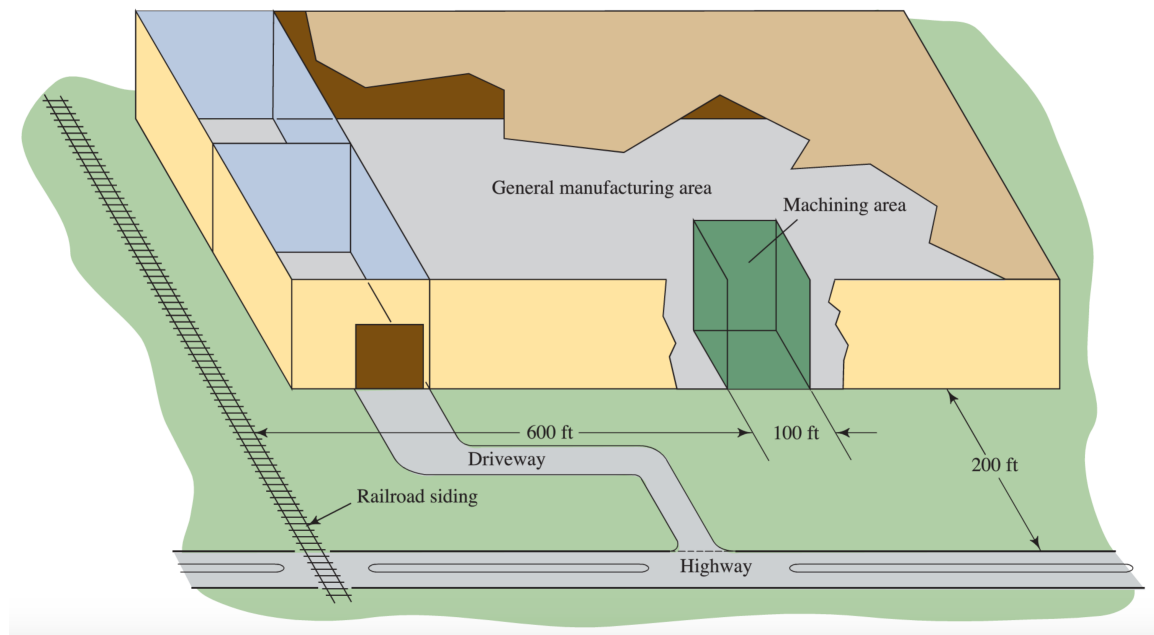
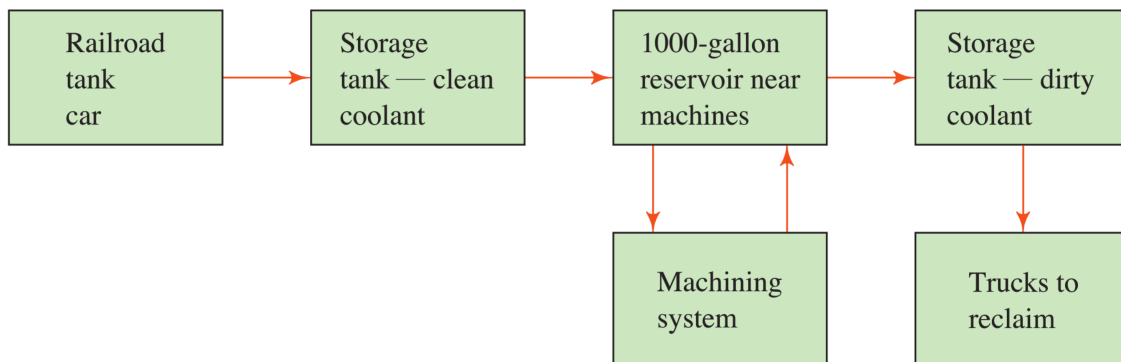

FIGURE 1. Plot plan of a hypothetical factory building for the design problem.
FIGURE 2. Block diagram of coolant system.
The layout of the planned facility is shown in figure 1. The following data, design requirements, and limitations are given.
17. The basic coolant storage and delivery system is to have the functional design sketched in the block diagram in Figure 2.
NOTE: *Verbally explain your ideas and add images, diagrams and graphs needed to explain your solutions. As far as preliminary and final drawing, there is no need for detailed drawings, just simple high-level sketches. Hand sketches are fine, you may take a picture with your camera, phone and insert them to the document or just attach image drawn to your exam. Use appropriate number for images, diagrams and equations used (e.g Figure 1, Figure 2, etc.) for easier understanding and explain what they are in the body of the report.*